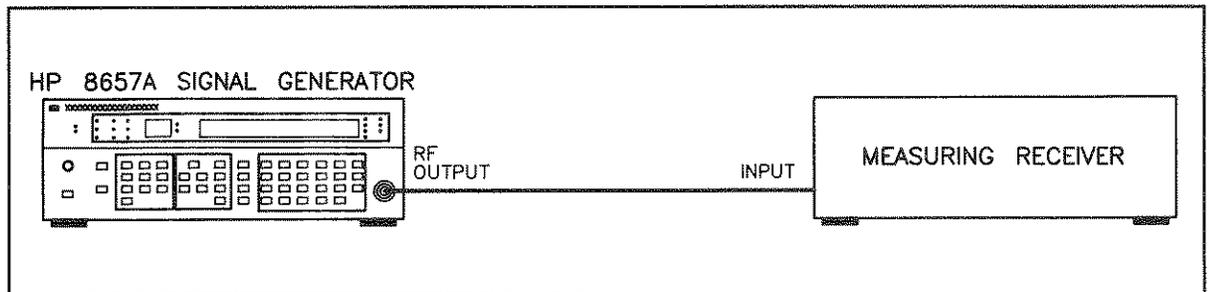

Figure 4-7. Modulation Test Setup
1. Connect the RF OUTPUT of the Signal Generator to the input of the measuring receiver as shown in Figure 4-7.